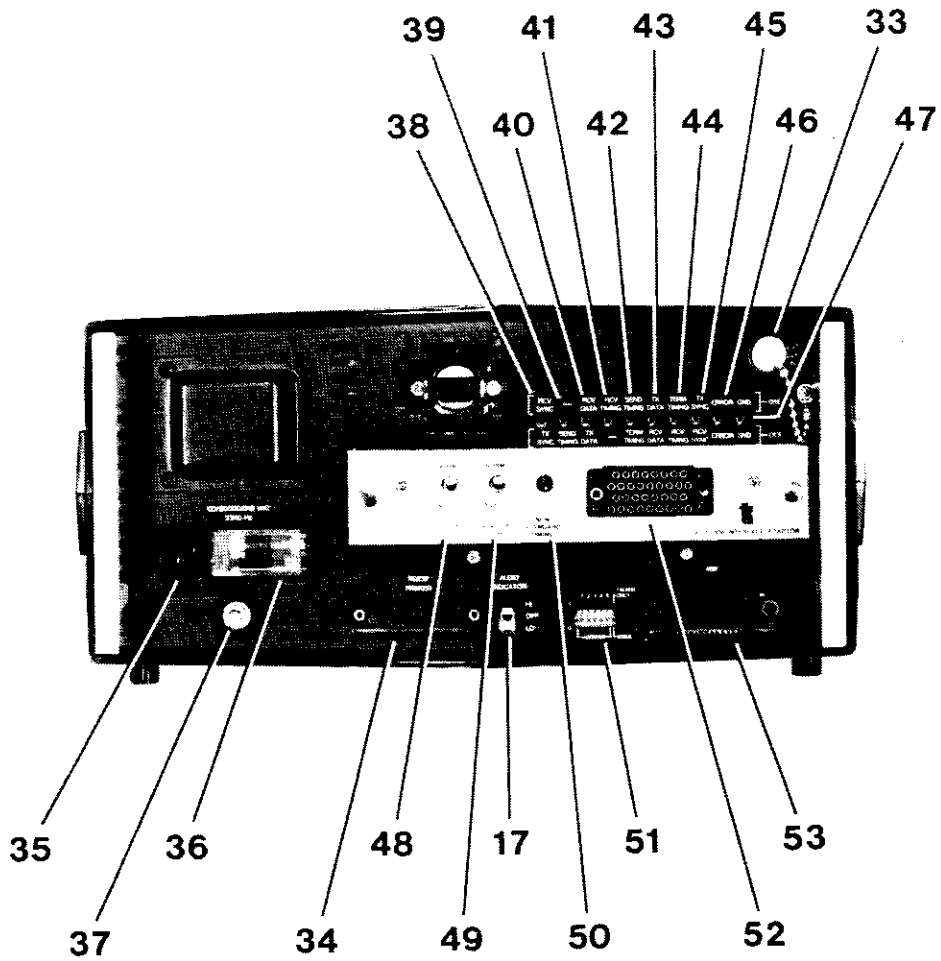

Figure 4-2
4.2.3 Connectors - (Figure 4-2)
4.2.4 Test Points - (Figure 4-2)
(V.35/306 DTE Interface Shown in Figure 4-2)
4.2.6 Rear Panel Switches (Figure 4-2)